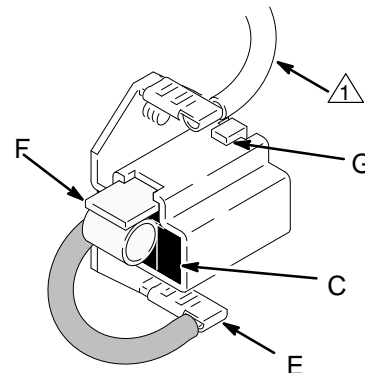

Fig. 16
6. Place a new brush (C) in the holder (B) so the ramp (H) faces the spring (G). See Fig. 16.
7. Holding the spring clip (F) at a slight angle, slide the spring clip into the brush holder and hook it over the end of the holder. See Fig. 16. Pull on the spring clip to be sure it stays in place. Connect the brush lead to the blade connector (E).